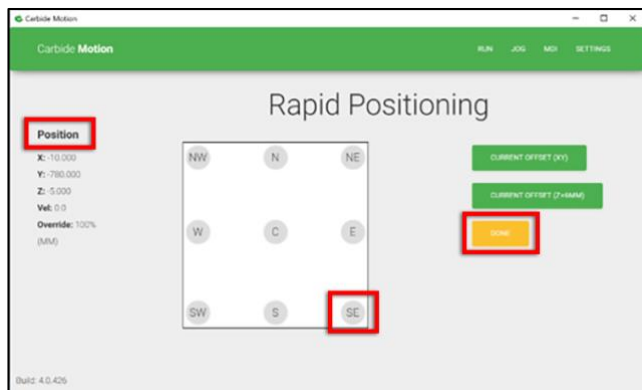

Figure 18
4. Click the **Position** label. This will toggle the view to the machine coordinates. See *Figure 18*.
5. Click **Rapid Position**, then click the **SE** button to move the spindle to the front-right of the machine. Once in position, click **DONE**. See *Figure 18*.